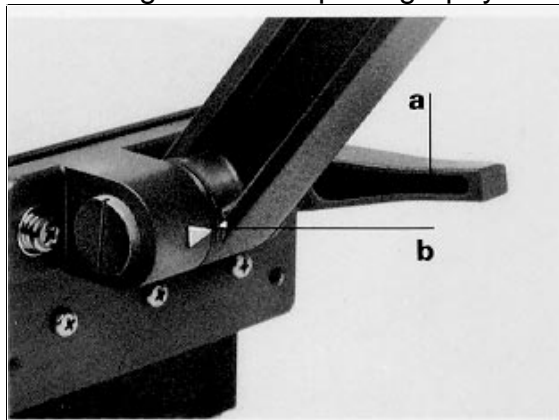

Figure 2-43. Adjusting Arm Angles
d. Loosen the locking level (b, figure 2-43) and adjust the angle of each arm so the indicators (c) are aligned. This will place the lamps at the correct angle for most photography.